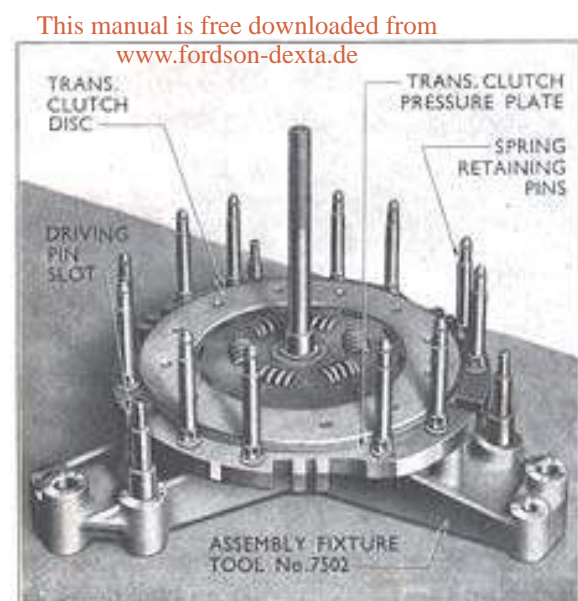

Fig. 8
2. Locate the transmission clutch pressure plate centrally on the three lugs cast in the base arms of the fixture and, to facilitate installation of the centre drive plate, position the pressure plate so that the centres of the three driving pin slots are offset approximately $1\frac{1}{2}$ ins. (38.57 mm.) in a clockwise direction from the centres of the fixture locating pegs (see Fig. 8).
3. Place the transmission clutch disc, sprung hub downwards, on the transmission clutch pressure plate, locating the bore of the disc hub on the large diameter at the bottom of the fixture centre spindle (see Fig. 8).